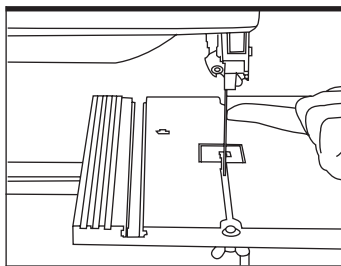

Fig 4
2. Tensioning the saw blade (See Fig4)